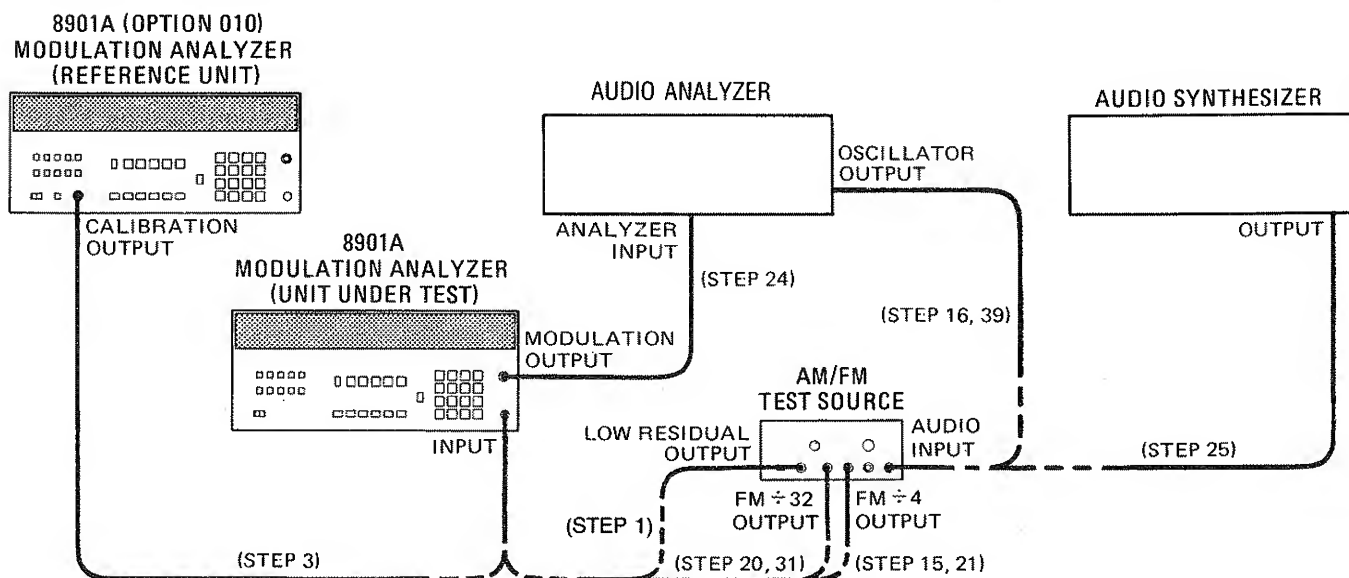

Figure 4-4. FM Performance Test Setup (Using a Second HP 8901A Equipped with Option 010)
1. On the AM/FM test source, set the test mode to residual FM. Connect its low-residual (560 MHz) output to the Modulation Analyzer's INPUT. (See figure 4-4.)
3. Connect the CALIBRATION OUTPUT of the HP 8901A with Option 010 (Reference Unit) to the INPUT of the Modulation Analyzer under test. (See figure 4-4.)
15. On the AM/FM test source, set the test mode to FM. Connect its FM÷4 output to the Modulation Analyzer's INPUT. (See figure 4-4.)
16. Set the audio analyzer's source to 10 kHz at 0.5 V. Connect its output to the audio input of the AM/FM test source. (See figure 4-4.)
20. Connect the FM÷32 output of the AM/FM test source to the Modulation Analyzer's INPUT without disturbing the AM/FM test source's controls. (See figure 4-4.) Multiply the displayed ratio on the Modulation Analyzer by the result of step 11 divided by the result of step 6. (For example, if the display reads 12.52% REL and the result of step 11 is 33.400 kHz and the result of step 6 is 33.333 kHz, the desired result is $(12.52 \times 33.4) \div 33.333 = 12.55$.) The result should be between 12.35 and 12.65% REL.
21. Connect the FM÷4 output of the AM/FM test source to the Modulation Analyzer's INPUT. (See figure 4-4.)
24. Connect the audio analyzer's input to the MODULATION OUTPUT of the Modulation Analyzer under test. (See figure 4-4.) Set the audio analyzer to measure the distortion on the 100 kHz signal at the MODULATION OUTPUT (all audio analyzer filters should be off). The distortion should be 0.1% or less (-60 dB or less).
25. Set the audio synthesizer to 10 kHz at +15 dBm. Connect its output to the audio input of the AM/FM test source. (See figure 4-4.) Fine adjust the level for a Modulation Analyzer display of 100 kHz times the result of step 11 divided by the result of step 6. (For example, if the result of step 11 is 33.400 kHz, and the result of step 6 is 33.333 kHz, set the level for a display of $(100 \text{ kHz} \times 33.400) \div 33.333 = 100.2 \text{ kHz}$.))
31. Connect the FM÷32 output of the AM/FM test source to the Modulation Analyzer's INPUT. (See figure 4-4.)
39. Set the audio analyzer's source to 10 kHz at 2 V. Connect its output to the audio input of the AM/FM test source. (See figure 4-4.) Fine adjust the oscillator level for a Modulation Analyzer display of 10 kHz peak deviation.